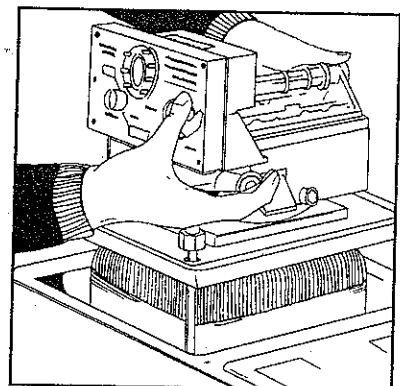

FIG. 4
2. Carefully lift the entire valve head pressure vessel and brine pick-up tube assembly. Replace to new position (Fig. 4).